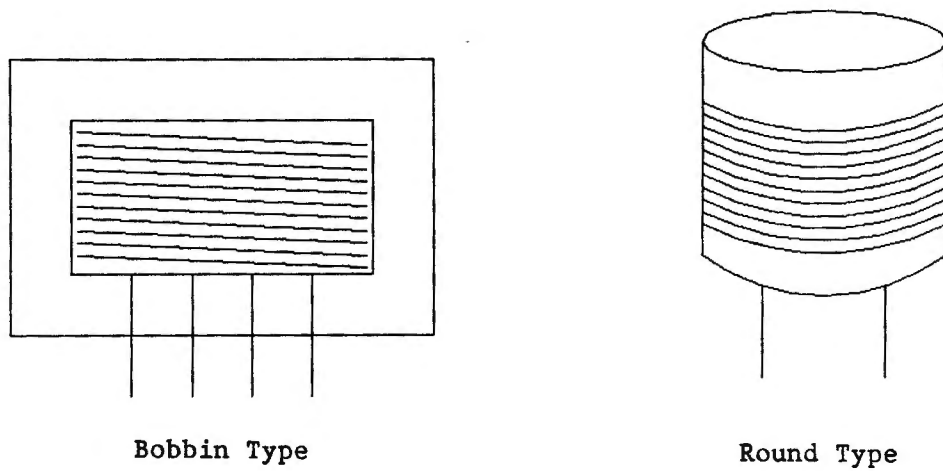

Figure 1
- 1.) Locate and remove the two inductors labeled L1 and L2 on the main logic board. If one or both of the inductors removed are the bobbin type they will need to be replaced with the round type. See figure 1.